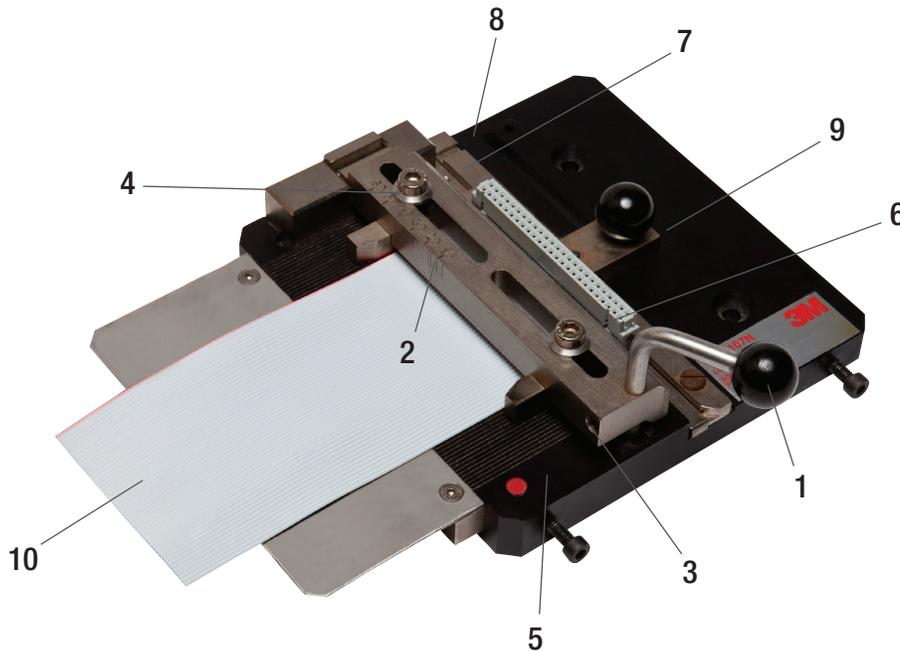

Figure 2
- 2.1 Mount lever ① on the guiding wing ② and secure by locking screw ③. Make sure that the plastic ball is facing towards the operator (see Figure 2).